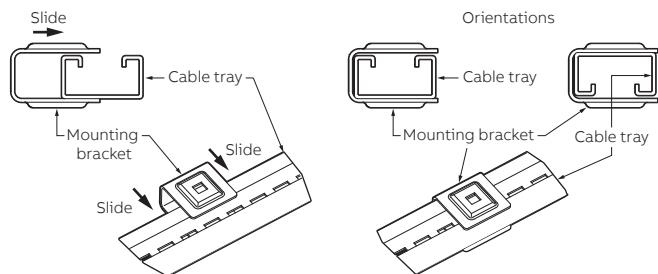

Figure 3
3. Determine the cable cleat spacing from Table 1, based on the required short-circuit current protection. Slide the mounting brackets onto the cable tray rungs at the desired spacing. Bracket will fit rungs in either orientation (Figure 3).